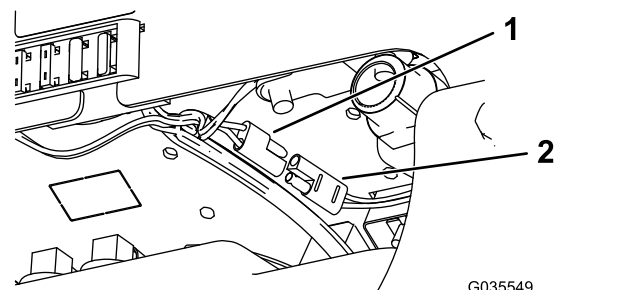

Figure 3
- **Machines without any electric accessories**—connect the port wire harness to the machine wire harness (Figure 3).